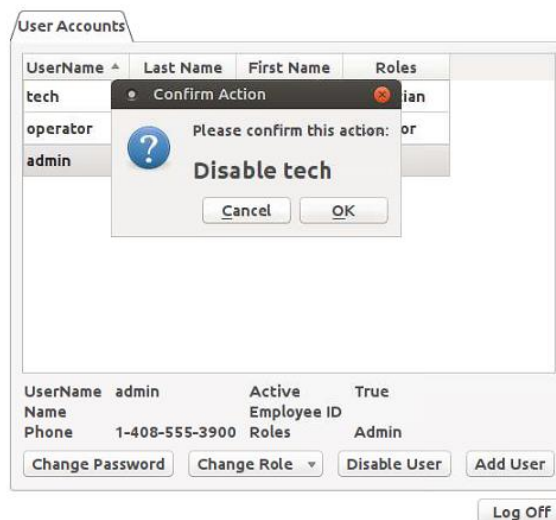

Figure 40: Disable Confirmation
1. Click **Disable User**. Figure 40.